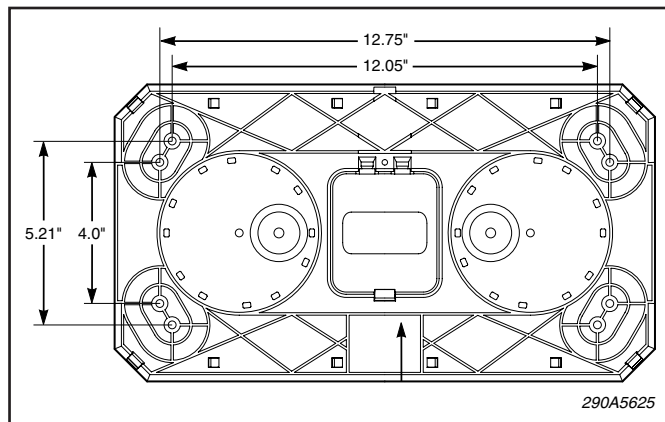

Figure 1.
1. Select a relatively flat and level position on the mounting surface. See figure 1. There are two sets of mounting holes. Pattern A matches the pattern found on the Halogen and Strobe Highlighter models. Pattern B is an alternate set of holes, closer to the corners for greater stability. Select the pattern most appropriate for your installation and scribe four drill position marks on the mounting surface. The wire routing hole can be located beneath the wire exit. If the wires will be routed down,